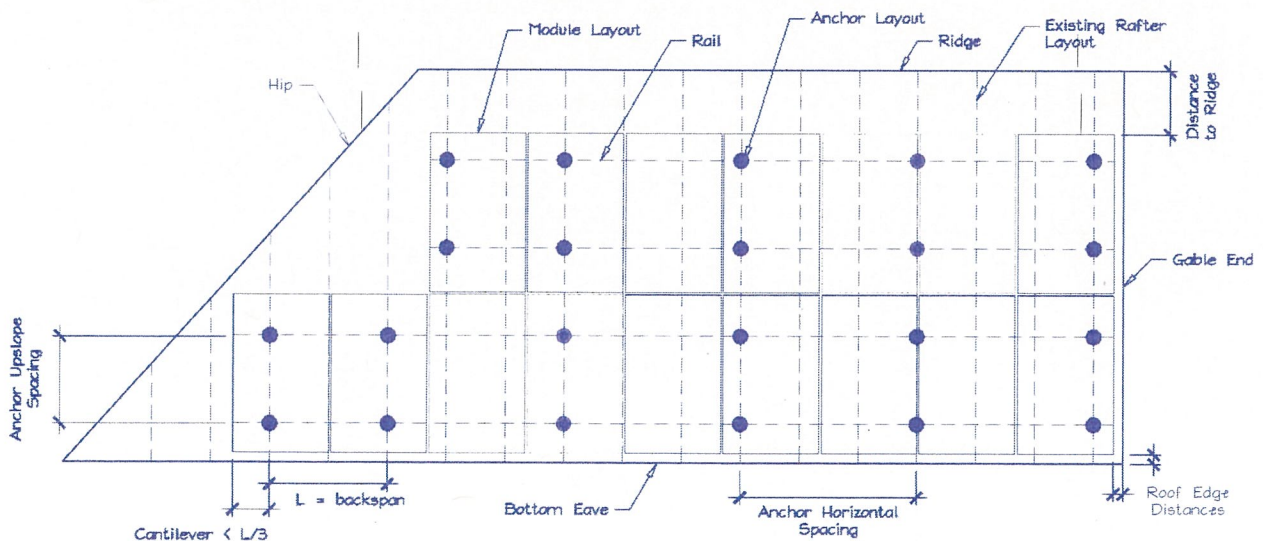

Figure 2. Sample Solar Panel Array and Anchor Layout Diagram (RoofPlan).
- E. Is a roof plan of the module and anchor layout attached? (see Figure 2) Y N
- 1) Proposed anchor horizontal spacing (see Figure 2): _____' - _____"ft-in
1. Anchors are also known as "stand-offs," "feet," "mounts" or "points of attachment." Horizontal anchor spacing is also known as "cross-slope" or "east-west" anchor spacing (see Figure 2).